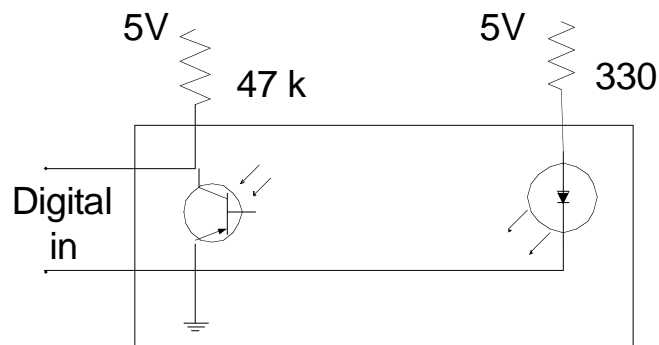

Figure 2: Photo interrupter
- ∞ photo interrupter: see Figure 2.